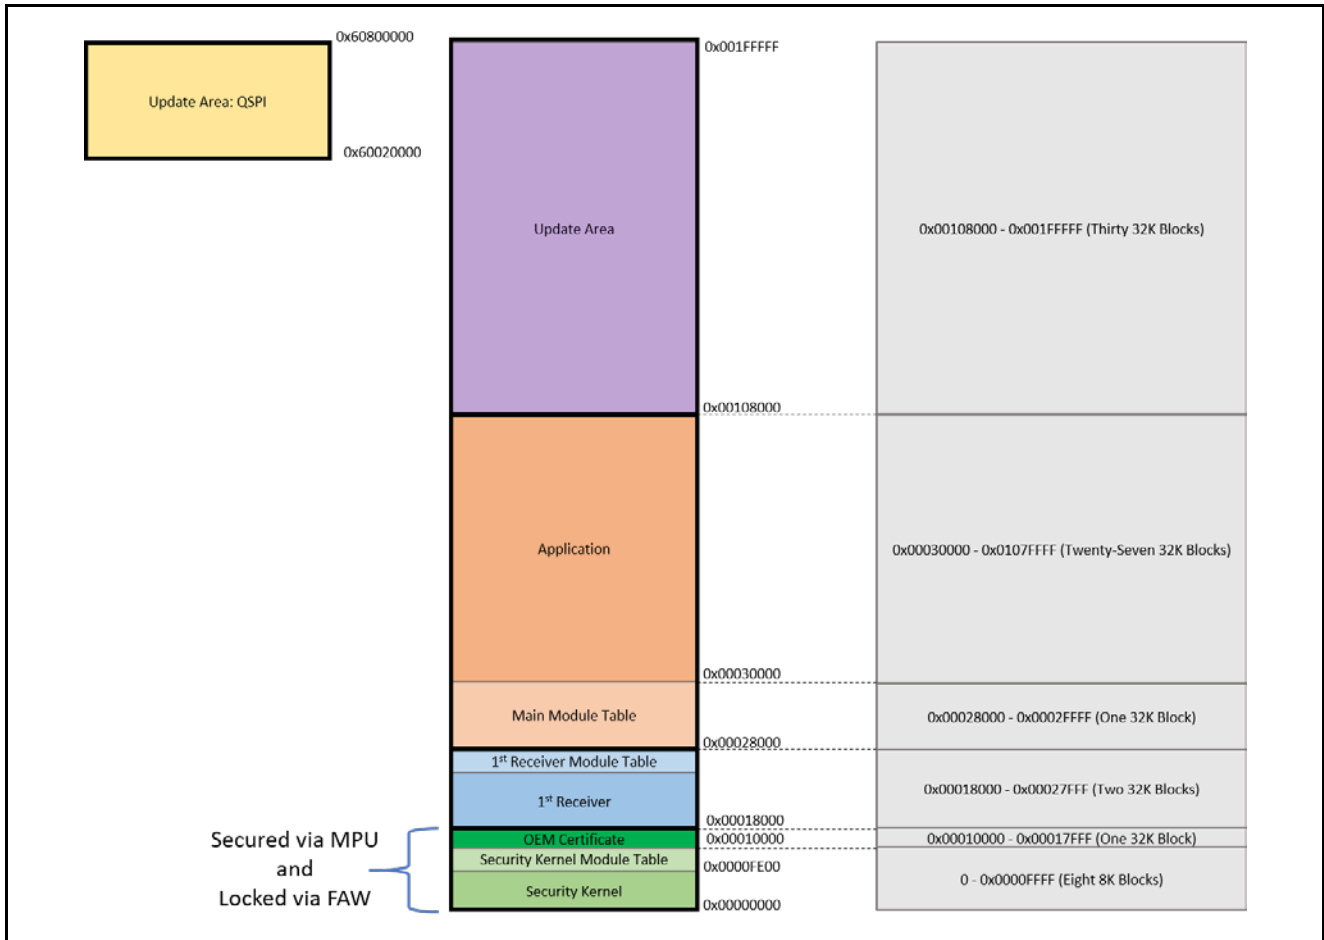

Figure 14. Memory Layout
- Refer to Figure 14 to get an understanding of the memory layout.